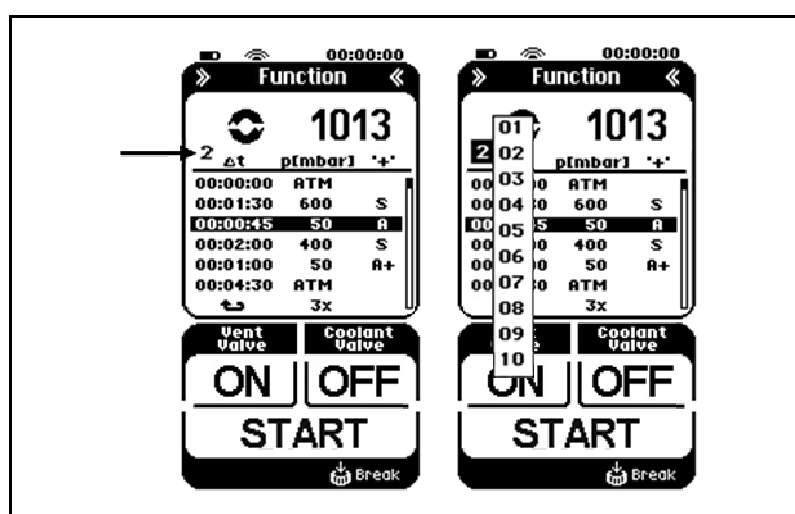

Fig. 15: Menu in Function operating mode
Line selection (see Fig. 15):
- Press the button to select data point tables (arrow in Fig. 15) and select the required data point table.
- i** Up to 10 different data point tables can be stored and called as required. The number in the display (arrow in Fig. 15) indicates the data point table that is currently selected.